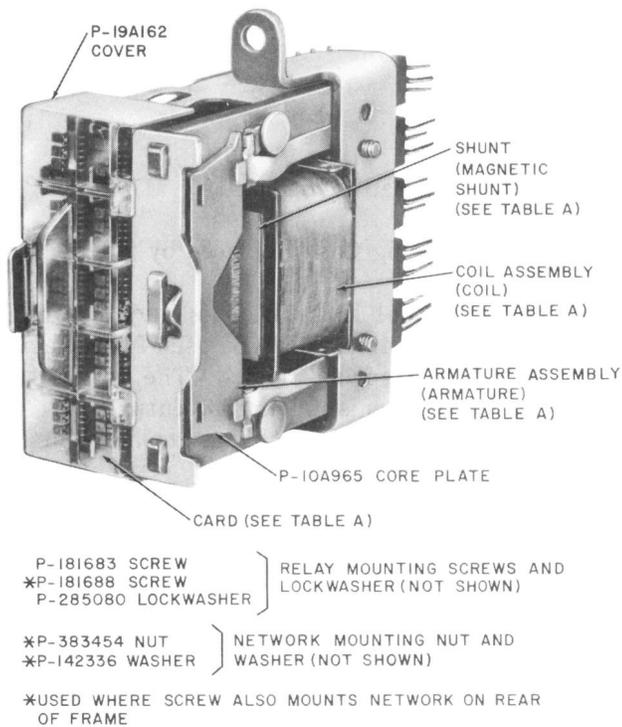

Fig. 1—286-Type Relay
(1) Tag, unsolder in the case of soldered connections, and unwrap the leads to the terminals of the coil to be replaced. Remove any lumps of solder remaining on the terminals. Place a KS-2423 cloth under the relay to shield adjacent apparatus from solder drippings while unsoldering the leads.
(2) If the relay has a magnetic shunt mounted on the core (see Fig. 1), remove the shunt